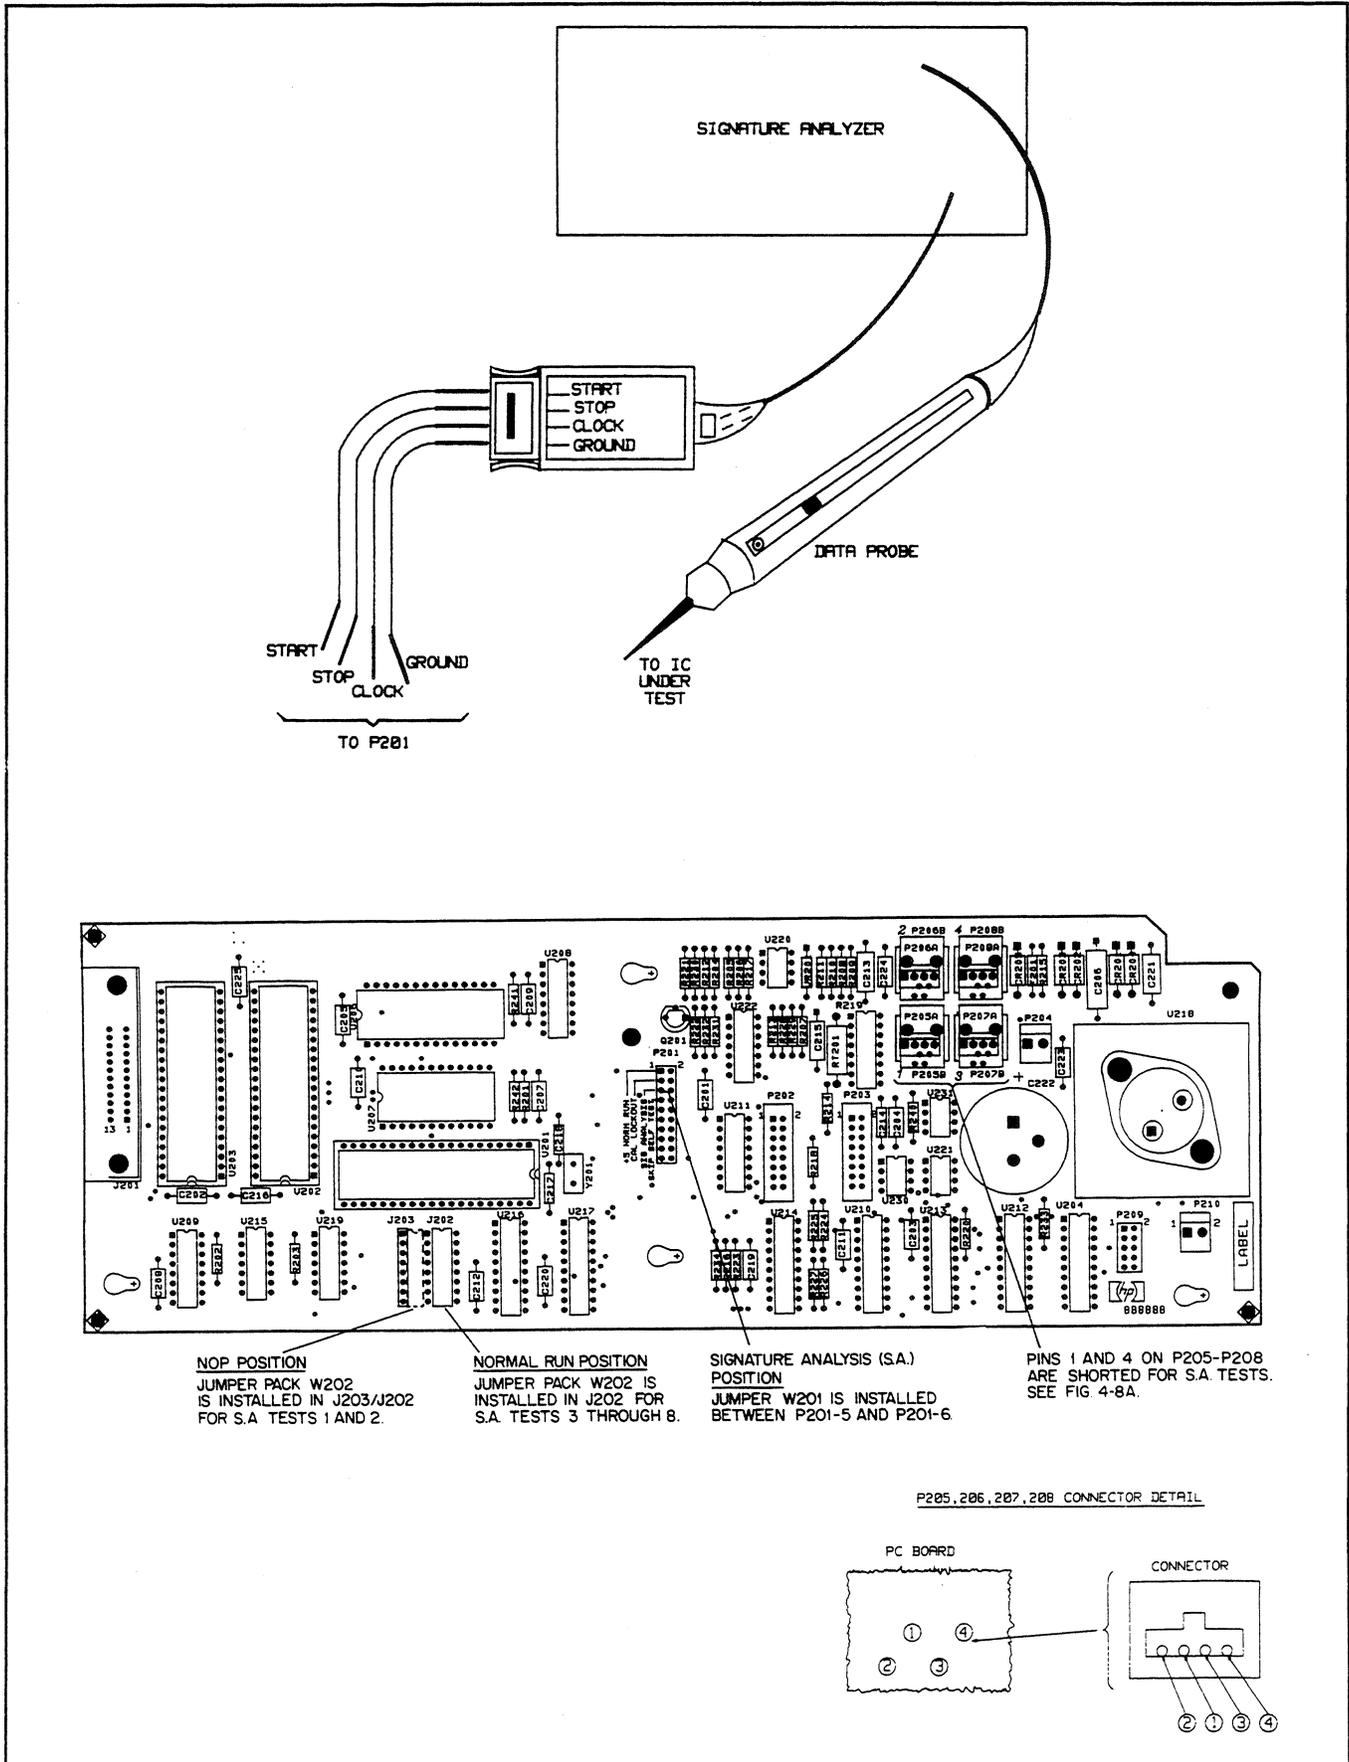

Figure 4-8. Signature Analysis Test Setup
Figure 4-8 shows the general test setup for the signature analysis tests given in Tables 4-6 through 4-13. Note that jumper pack W202 can be installed in either of two positions as shown in Figure 4-8. The following is a general description of the test setup. Specific signature analyzer and jumper connections for each test are given in the applicable table.
- b. Connect jumper W201 in the SIG. ANALYSIS position (across pins 5 and 6) of connector P201 as shown in Figure 4-8.
- c. Short pins 1 and 4 together on connectors P205 through P208 as shown in Figure 4-8.
- d. Check that jumper pack W202 is in the proper position specified by the particular S.A. test. Figure 4-8 shows two operating positions: normal run position and NOP (no operation) position. W202 is a 16-pin jumper pack. To select the normal run position, W202 is plugged into 16-pin socket J202. To select the NOP position, W202 is connected between 8-pin socket J203 and pins 1-8 of 16-pin socket J202 (see Figure 4-8).